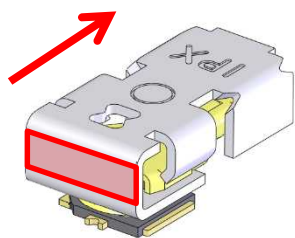

Fig. 5
- ① Set a finger on the surface indicated in a red box in fig. 5 and push the locking function to the direction indicated in red arrow.